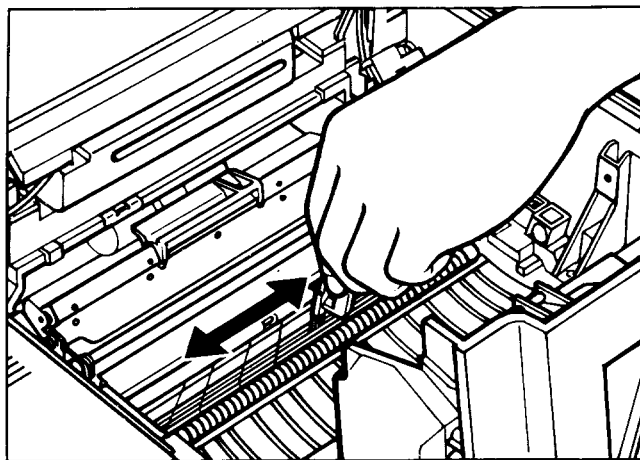
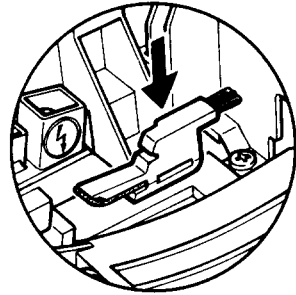

Fig. 10-18
Fig. 10-20
- **Discharging pins** - Use the wire brush to clean the discharging pins (Figs. 10-18 & 10-19), taking care not to damage the transfer corona wires. Return the brush to its holder inside the printer (Fig 10-20).